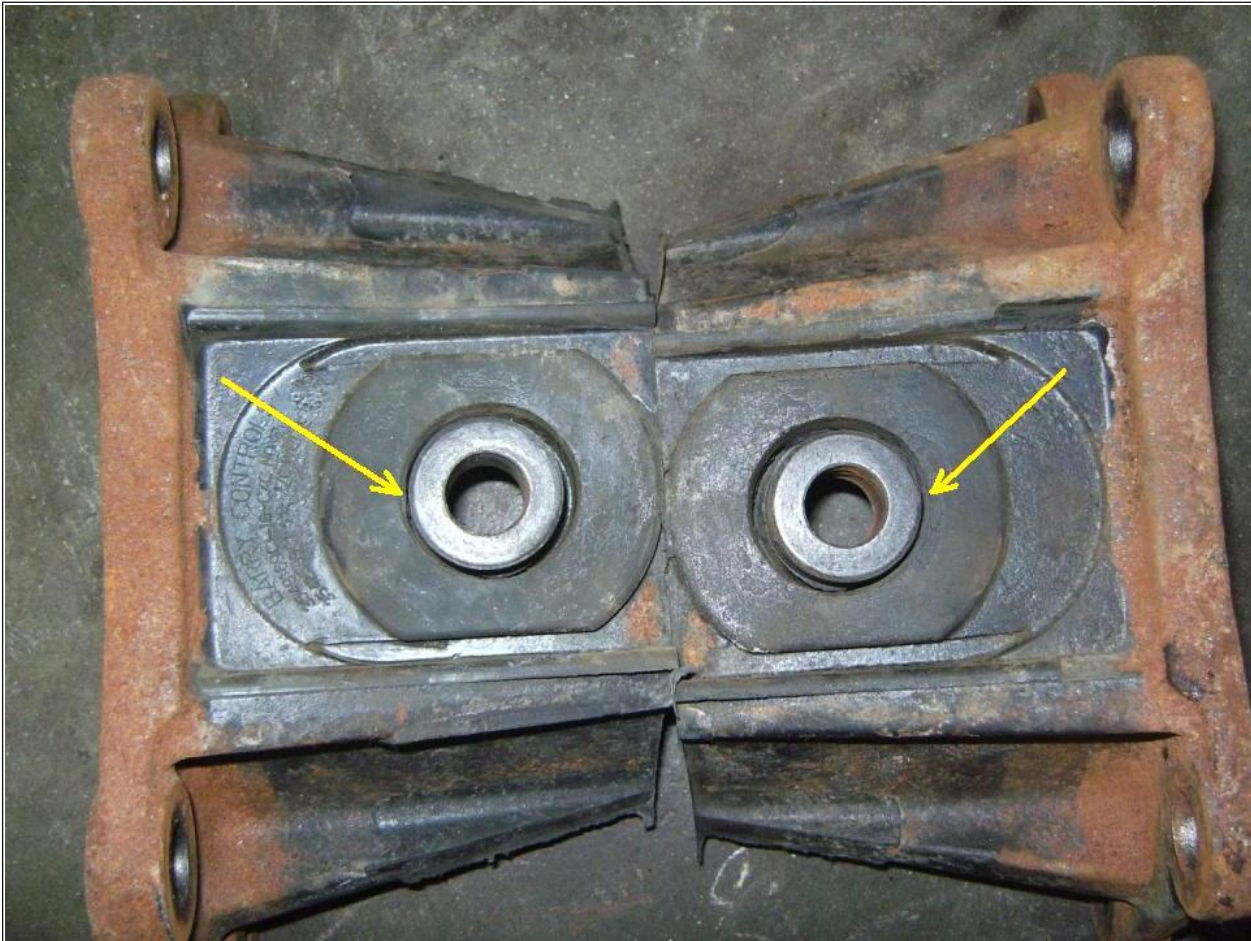

Figure 1:
- Check barrels (integral part of the insulator) to see if they are centered in mounting bracket hole (See Figure 1 below).